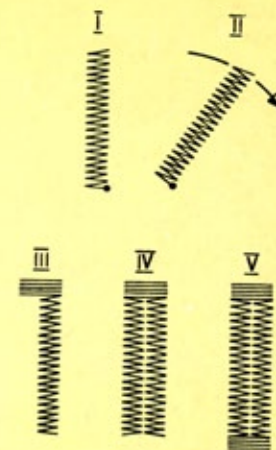

Fig. 60
- Bring lever « C » (Fig. 1) on 1.5 and make first row of stitches (Fig. 60, Operation I) going as far as to reach the limit marked by the guide. Leave needle in fabric, on the right.
- Raise presser foot and turn fabric half a turn around needle (Fig. 60, Operation II). Lower presser foot.
- Make first bar tack with 3 or 4 stitches (Fig. 60, Operation III) and stop sewing with needle out of fabric.
- Bring lever « C » on 1.5 and make second row of stitches as long as the first (Fig. 60, Operation IV). Stop sewing with needle out of the fabric.
- Bring lever « C » on 3 and make second bar tack (Fig. 60, Operation V).